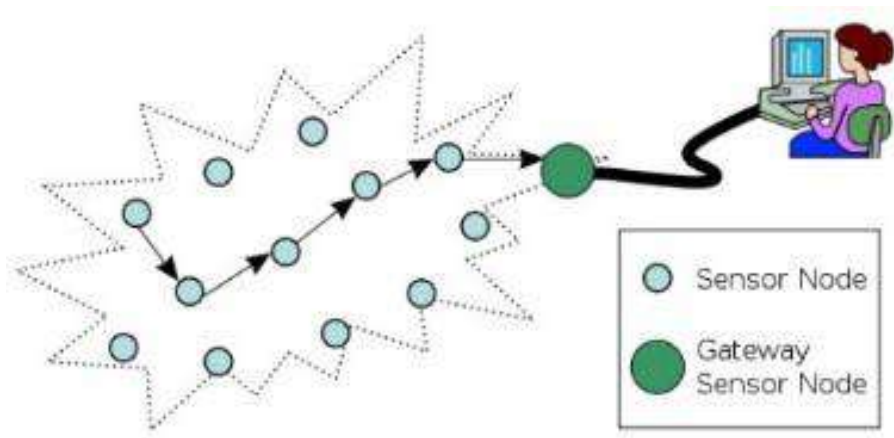

Figure 1.5 Wireless Sensor Networks
- The Wireless Sensor Networks (WSN) are special category of Adhoc wireless network that are used to provide a wireless communication infrastructure among the sensors deployed in a specific application domain.(Figure 1.5)